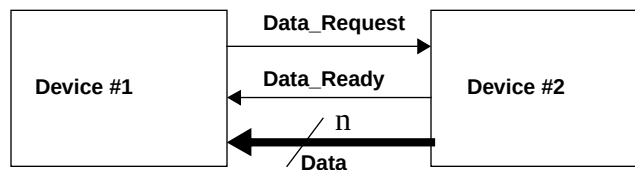

Figure 1 - Handshaking
3. To transmit data between two devices, it is often necessary to provide what are called “handshaking” signals that ensure that the data is received correctly, particularly when two devices are running at very different speeds. Consider the situation illustrated in Figure 1, in which **n** bits of data are to be transmitted from Device #2 to Device #1.